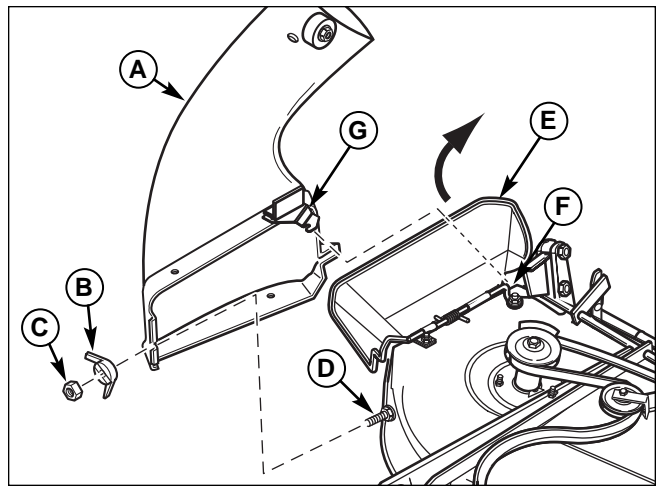

Figure 13. Install Lower Discharge Chute
1. Lift discharge deflector up (E, Figure 13).
2. Slide the notch of bracket (G) on to deflector hinge rod (F).
3. Secure the front of lower chute (A) to carriage bolt (D) using wing nut (B) and locknut (C).
4. Lift discharge deflector up (E, Figure 13).
5. Loosen (do not remove) wing nut (B) and lock nut (C).
6. Slide lower chute (A) off carriage bolt (D) and deflector hinge rod (F).